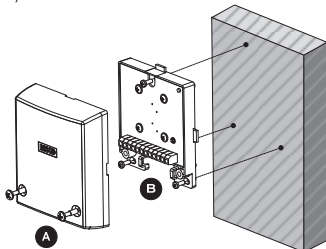

Figure 1: Mounting the detector directly onto a metallic surface
- Remove the cover fixing screws to separate the cover from the base, see Figure 1(A) / 2(B).
Direct mounting on a metallic surface (Figure. 1)
- c. Fit the detector using the supplied fixing screws, see Figure 1(B).
- Replace the cover and tighten the cover fixing screws; See Figure 1(A) / 2(B).